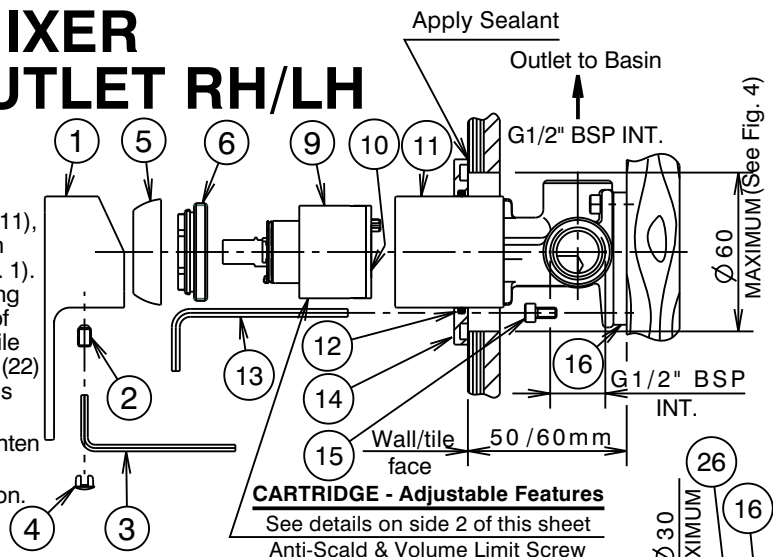

Fig. 1
- 5) Carefully slide the cover plate (14) onto the mixer body (11), ensuring that the 'O' Ring (12) remains in its groove, then push the cover plate firmly against the wall/tile face. (Fig. 1). Fit wall basin outlet (21) onto spigot of retainer (17), taking care that 'O' Rings are not damaged as they enter bore of outlet, then push it firmly against the cover plate (14) while tightening grub screws (23) using the 2.00mm allen key (22) provided. Take care that the top face of the basin outlet is horizontal before tightening screws (23).
- 6) Fit handle (1) taking care that it is pushed fully down, tighten screw (2) using the 2.5mm allen key (3) then fit plug (4).
Replacing Cartridge (Fig. 1)